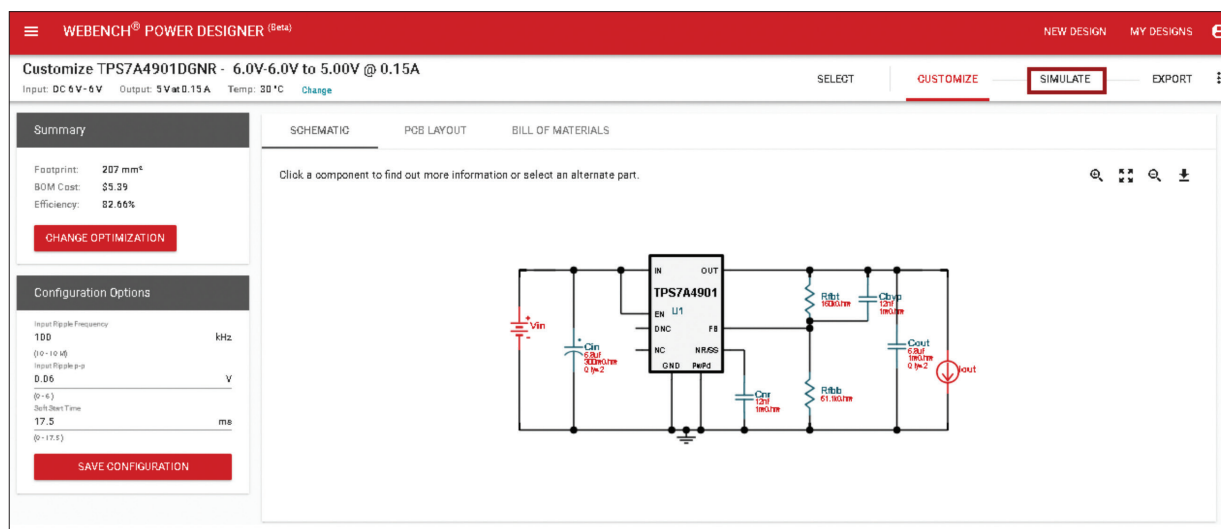

Figure 7.
- Click the **'SIMULATE'** button ( see top panel in **Figure 7**) to access the electrical simulation environment. Click the **input source symbol** to see its **Simulation Parameters** pop-up, Click on **'Update'**. Select **Rise Time** (source rise time), click **'SAVE'**. Select **V2**, enter 6 (for  $V_{IN} = 6V$ ), then dismiss the pop-up.